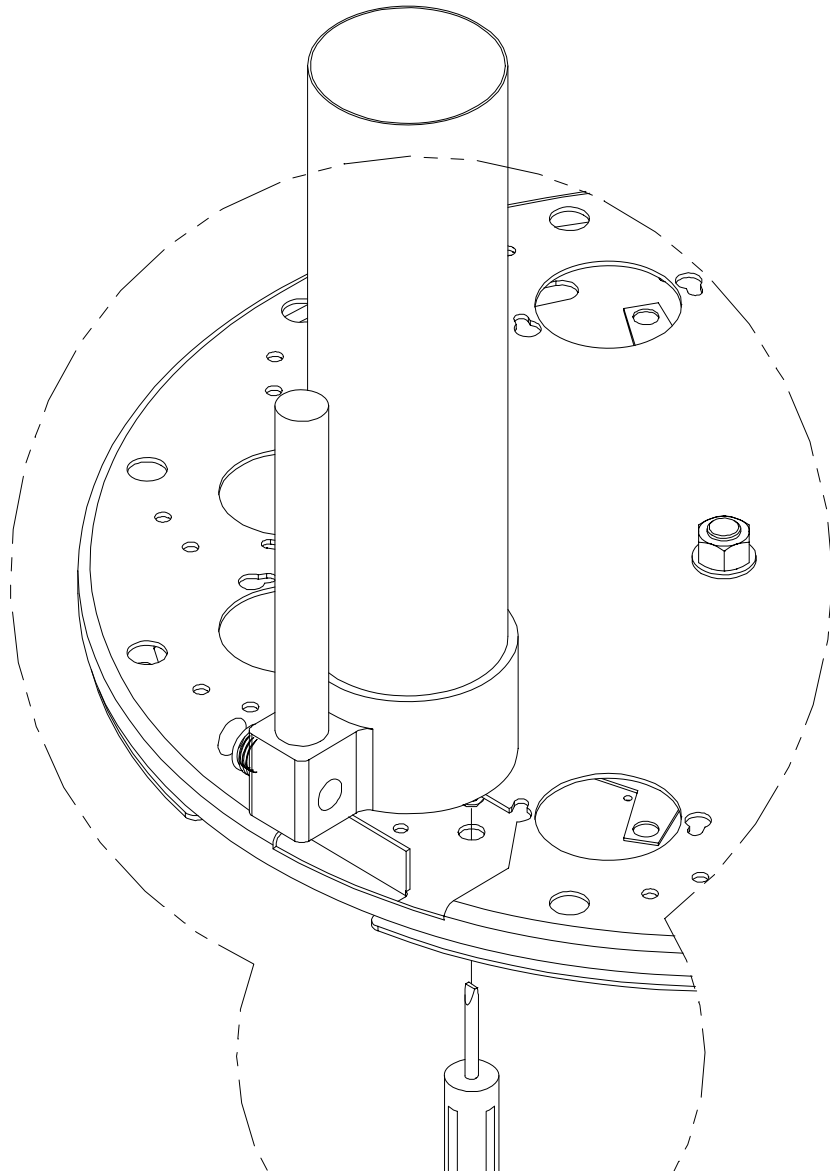

Figure 4 SECURING CANISTER
- While holding canister in position, secure the canister to the turntable using a screwdriver. Access holes are provided at the bottom of the turntable to tighten the two screws. (Figure 4 on page 8) **Do not overtighten these screws.**